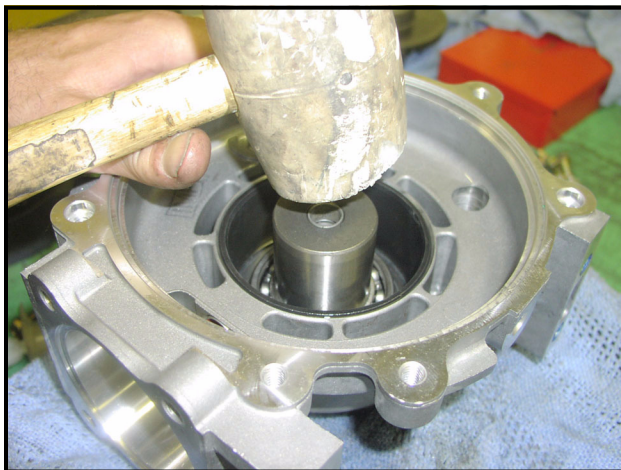

Figure 9-44 Install Output Hub and Bearing
5. Install a female output hub and bearing into the gearcase bearing cavity and gently tap the hub until the bearing seats in the gearcase (**Figure 9-44, Page 9-15**).